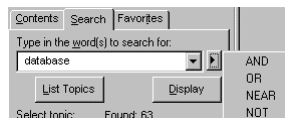

Figure II.5: Search terms can be logically linked via the press of a button
*Note:* A small button is positioned next to the textbox for the search term, which is marked with a triangle or arrow pointing to the right. Clicking on it makes four operators available, with the help of which search terms can be linked (Fig. II.5). The reader might like to test this individually as well as the function of the three checkboxes *Search previous results*, *Match similar words* and *Search titles only* at the end of this area, which offer additional selection criteria concerning the search volume.